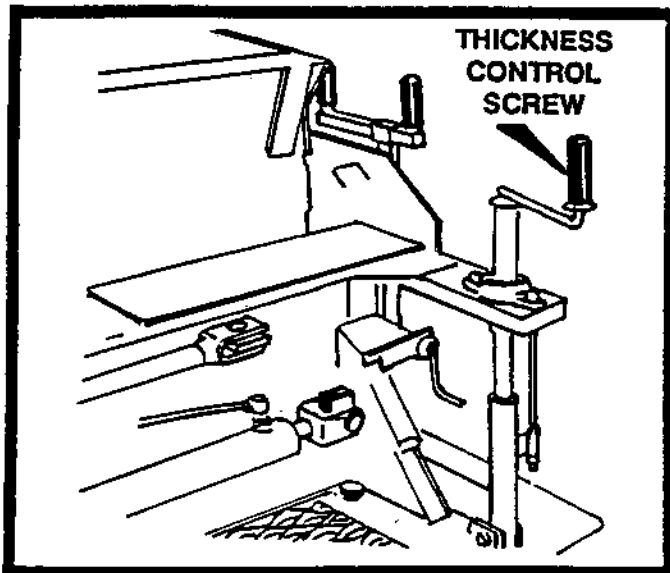

FIGURE 20
7. Move forward get ready to make fine adjustments with thickness control screws. (Clockwise thicker paving, counter clockwise thinner). See figure 20.